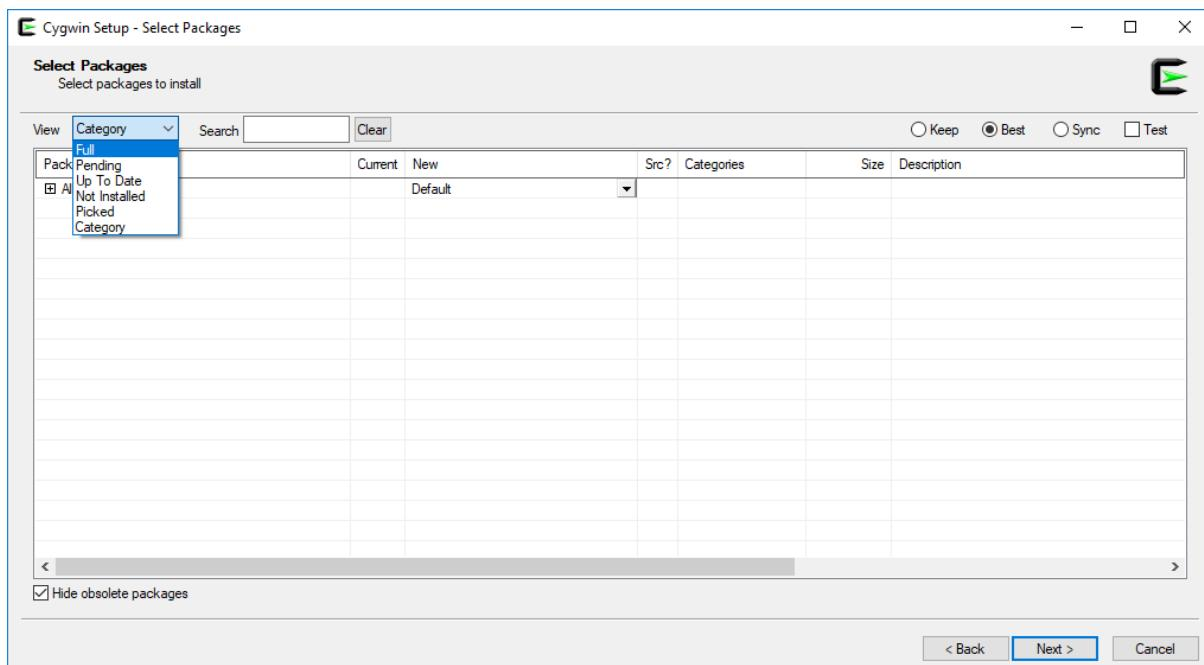

Figure 87. Select Packages window
3. After several steps, you will reach the **Select Packages** window (Figure 87). Select the **Full** view, as shown in Figure 87.